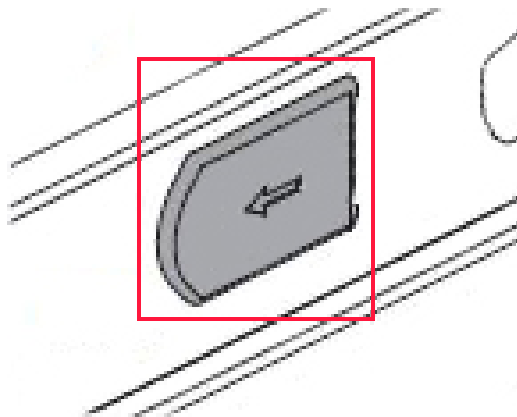

Figure 4.22 Release tab
8. Test the CMA to ensure smooth CMA operation. No pinching or binding of the cables should occur. When pulling the enclosure from the rack, the rails lock in the serviceable position. To release the rails from the serviceable position, press the release tab on each inner chassis member rail simultaneously (see Figure 4.22) and push the enclosure into the rack.